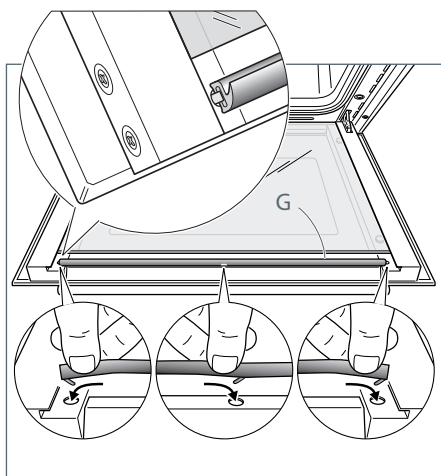

Fig.39e
- Replace the seal "G" by hooking in the three fixing hooks. Make sure that you put it in the correct way (Fig. 39e).